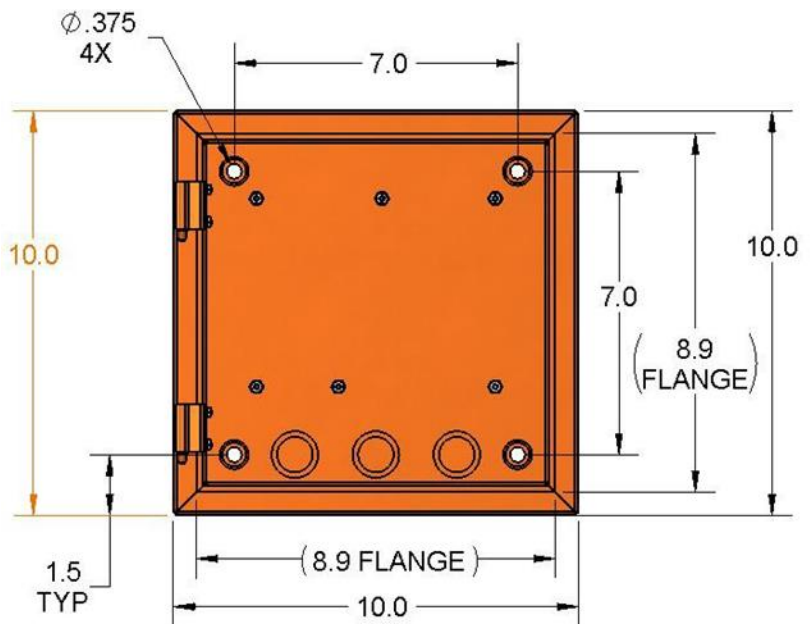

Figure 2
**Mount the back plate** to the desired location using the 4 holes as shown in Figure 2.